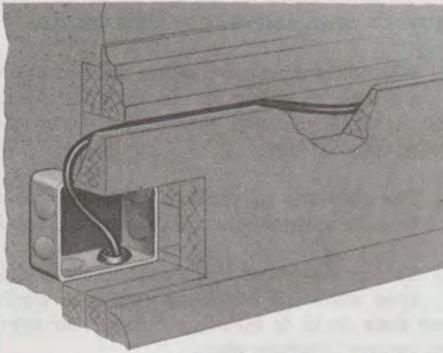

Fig. 5—Wiring From Conduit to Baseboards
- (a) Run wires along baseboards, on top of picture moldings, or on door or window casings, so that they will be as inconspicuous as possible (see Fig. 5, 6, and 7).